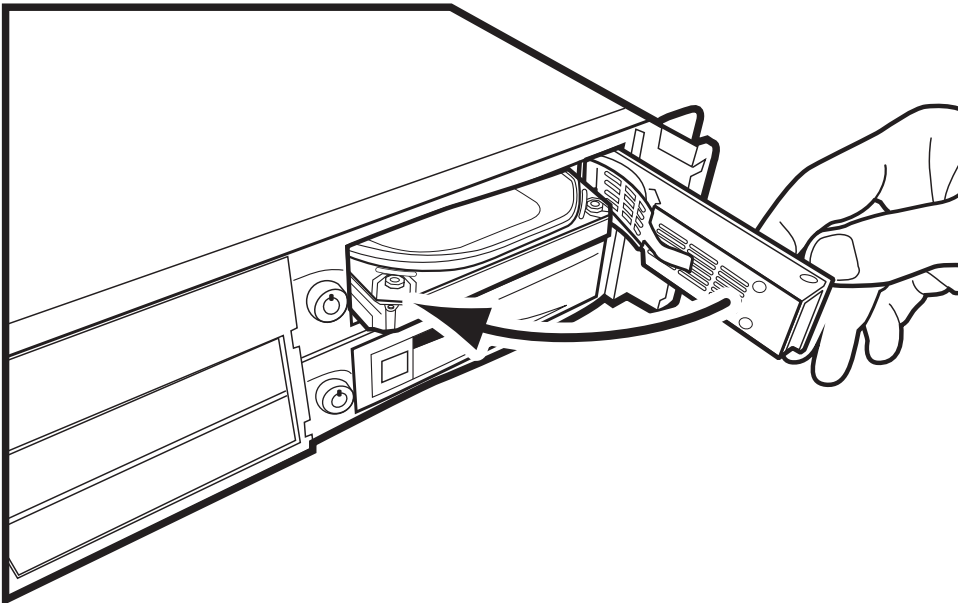

Figure 2.17 Closing the Hard Disk Door
4. Close the top hard disk tray. See figure 2.17 on page 21.